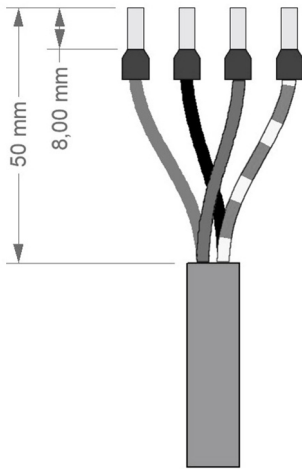

Fig. 18: Preparing the power cable
1. Prepare the power cable for connection. (⇒ Fig. 18)